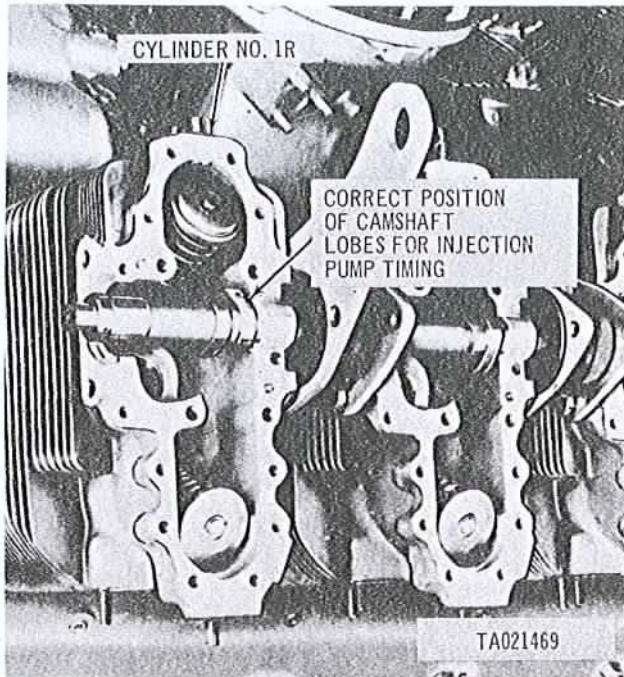
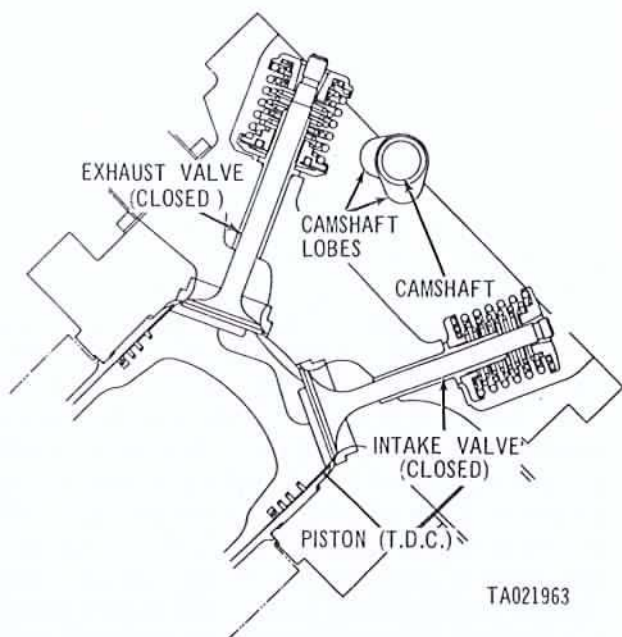

Figure 3-331. Correct position of cylinder 1R camshaft lobes (cams) for fuel injection pump installation - installed view.
Figure 3-332. Correct position of camshaft lobes (cams) for fuel injection pump installation - sectional view.
tion shown in figure 3-331, rotate engine crankshaft 360 degrees and the camshaft lobes will be in the position shown in figure 3-331.
c.1. Turn crankshaft using holding bar and pulley assembly (fig. 2-148.2) and align "1R INJ PORT CLOSE" timing mark on flywheel with timing mark on transmission housing adapter (fig. 2-51.1). If camshaft lobes are not in the position shown in figure 3-331, rotate engine crankshaft 360 degrees and the camshaft lobes will be in the position shown in figure 3-331.
h. Rotate the crankshaft until the two camshaft lobes (cams) for the intake and exhaust valves for No. 1R cylinder are pointed towards the crankshaft (fig. 3-331 and fig. 3-332). Remove protective cover from fuel injector nozzle holder assembly opening in cylinder assembly.
m. Rotate crankshaft as necessary to position camshaft lobes (cams) in downward position (figs. 3-331 and 3-332) as each of the remaining valve rocker arm covers are installed.